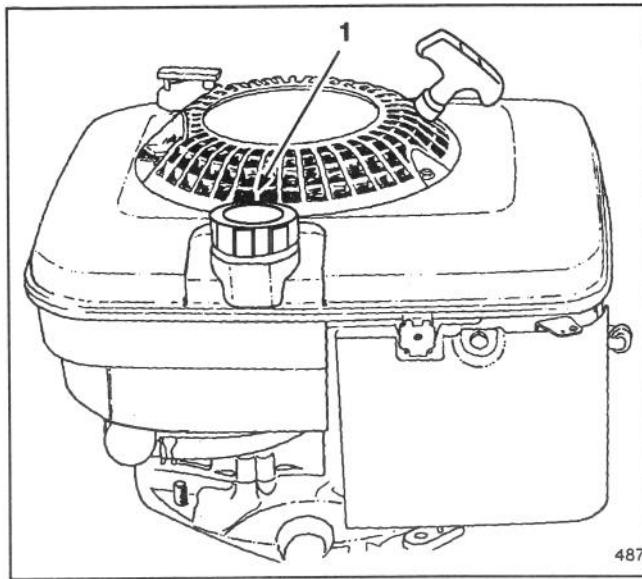

Figure 5
1. Clean around fuel tank cap and remove cap from tank (Fig. 5). Do not fill tank full. Using unleaded gasoline, fill fuel tank to within 1/4 to 1/2 inch (6 to 13 mm) from top of tank, not into filler neck.